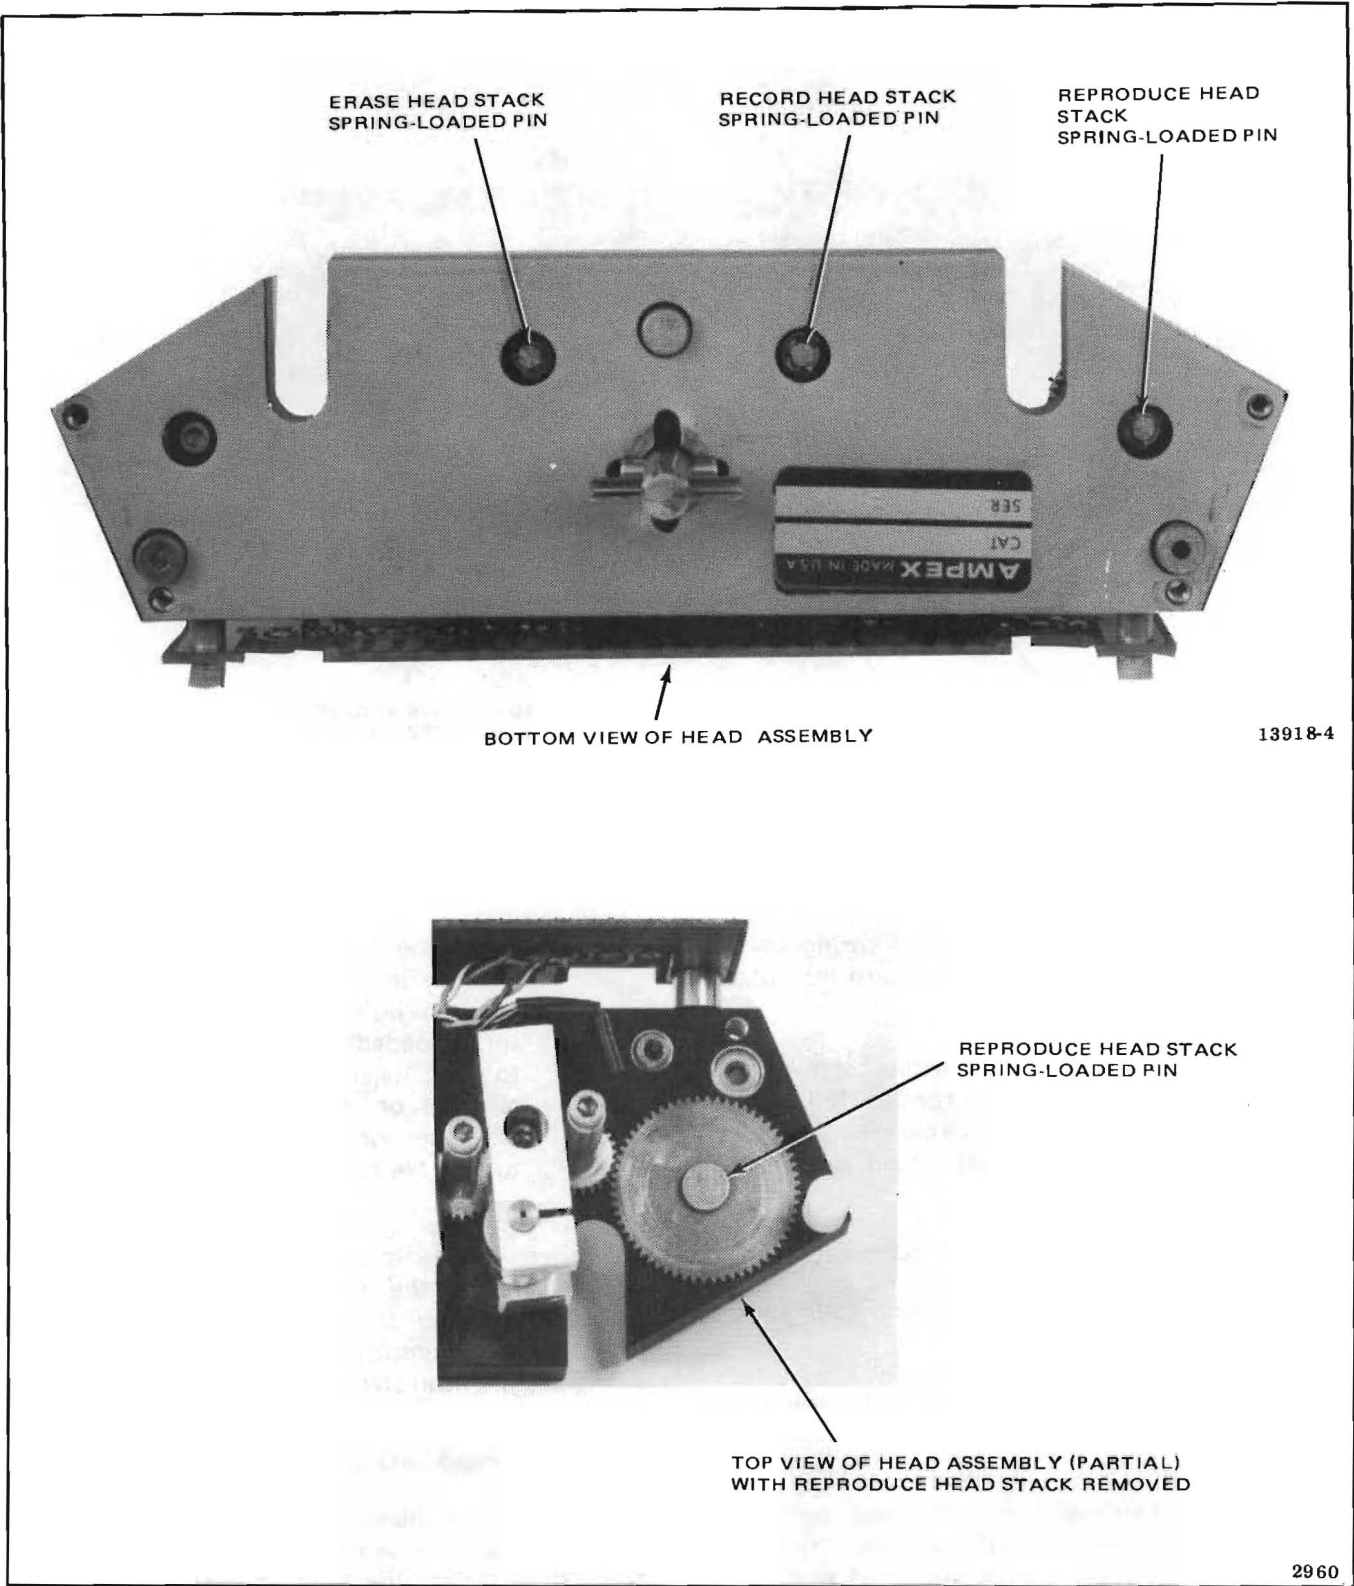

Figure 5-40. Head Assembly Spring Loaded Pin Locations, Main Head Shield Removed
6. Remove stack by pressing the spring-loaded pin (Figure 5-40), from underside of head base plate, and carefully sliding stack toward head connector PWA. When removing the reproduce head stack, rotate the stack on the pin to clear the head connector PWA.